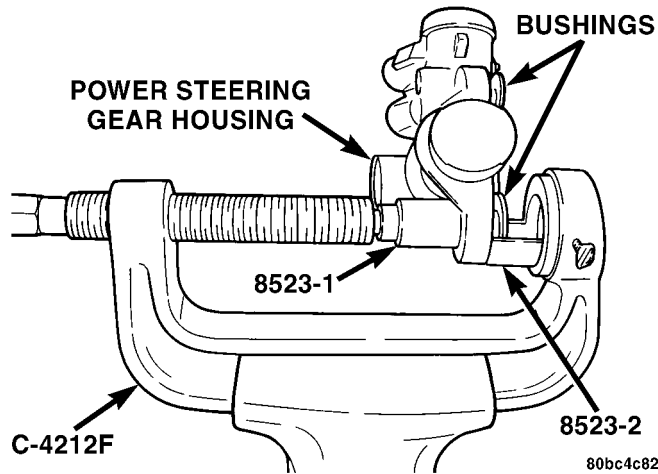

FIGURE 1
3. Place the steering gear housing against the Receiver (Figure 1). Tighten the screw drive until the Driver contacts the outer circumference of the bushing evenly. Continue to tighten until the bushing is pressed completely out of the steering gear. Remove the old bushing.